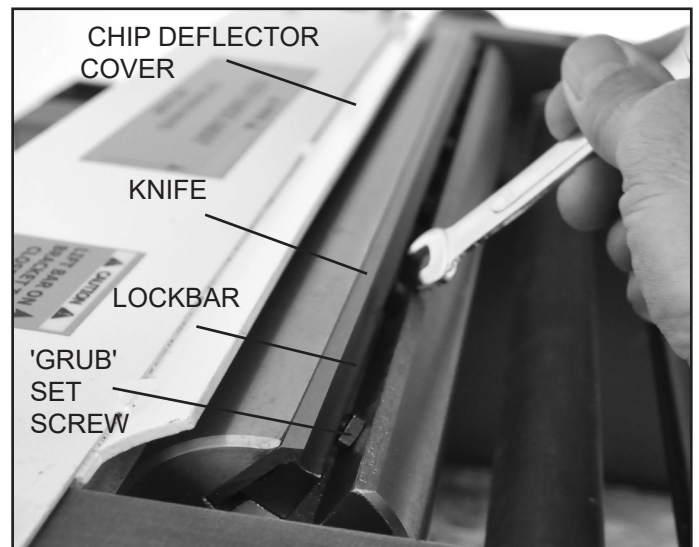

FIG. 14
3. Loosen the Lockbar (#55) in the block with the six square head Lockbar 'Grub' Set Screws (#54). FIG. 14.
2. Loosen the Lockbar (#55) in the block with the six square head Lockbar 'Grub' Set Screws (#54). FIG. 14.
5. Install the new planer knife onto the back of the Lockbar, and place them back into the cutterhead slot. Lightly tighten the lockbar grub screws to temporarily secure the knife in position. FIG. 14.